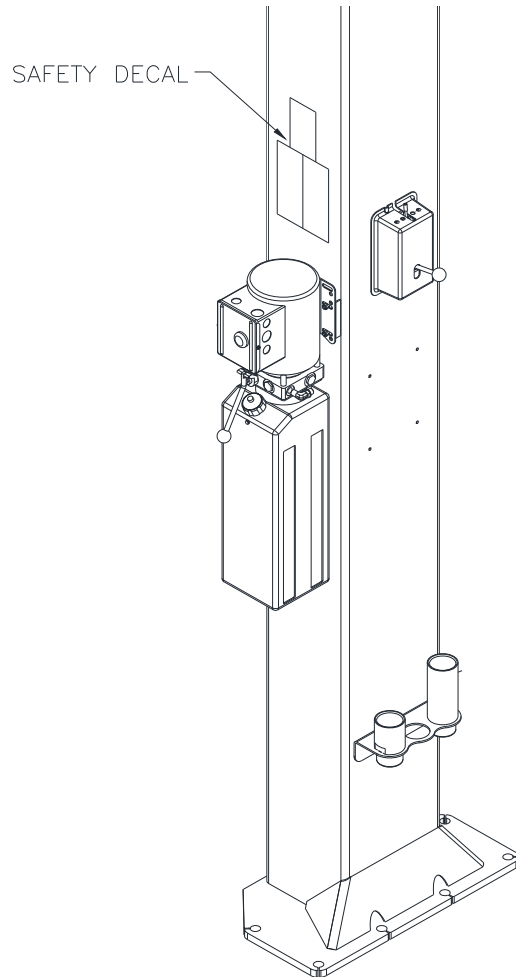

Fig. 21-Safety Decal Placement
- 45) Clean surface of the rear column above the power unit and install Safety Decals, **Page 3** and **Fig. 21**.